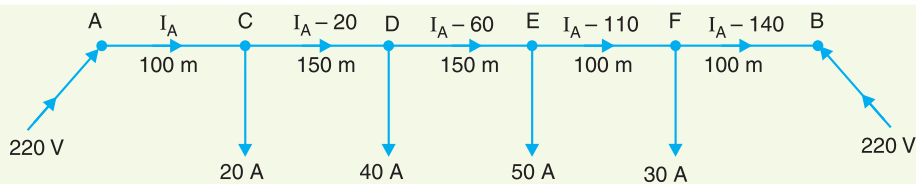

Fig. 13.17
**Solution.** Fig. 13.17 shows the distributor with its tapped currents. Let  $I_A$  amperes be the current supplied from the feeding end A. Then currents in the various sections of the distributor are as shown in Fig. 13.17.